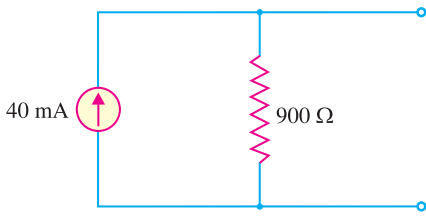

Fig. 1.48
2. Convert the current source in Fig. 1.48 into the equivalent voltage source. **[36 V in series with 900 Ω]**